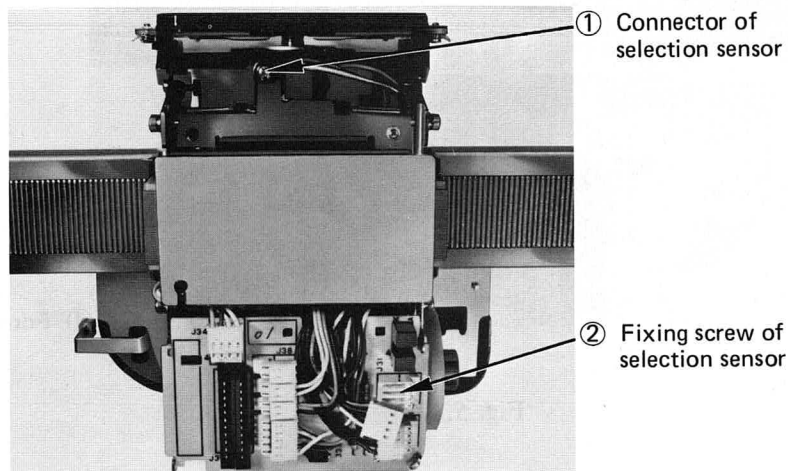

Fig. 5.13
- Step 1. Remove the carriage unit and disconnect connector ① from the selection sensor. (Fig. 5.13)
- Step 2. Remove fixing screw ② of the selection sensor and take off the selection sensor. (Fig. 5.13)